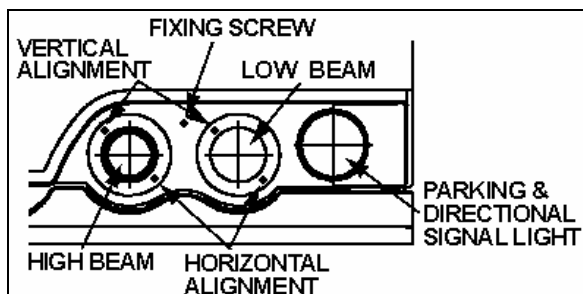

FIGURE 22: HEADLIGHT ASSEMBLY
Headlight aim should be checked after installing a new bulb. Aiming can be performed without opening headlight assembly. Horizontal and vertical aiming of each module is provided by two adjusting screws that pivot the module in the housing for proper alignment (fig. 22). There is no adjustment for focus since the module is set for proper focus during manufacturing assembly.
2. Make sure that headlight assembly fixing screw is properly fastened (Fig.22).
If beam is offset, a LOW CANDLES message will appear. Using vertical and horizontal alignment screws, adjust beam as needed (fig. 22).